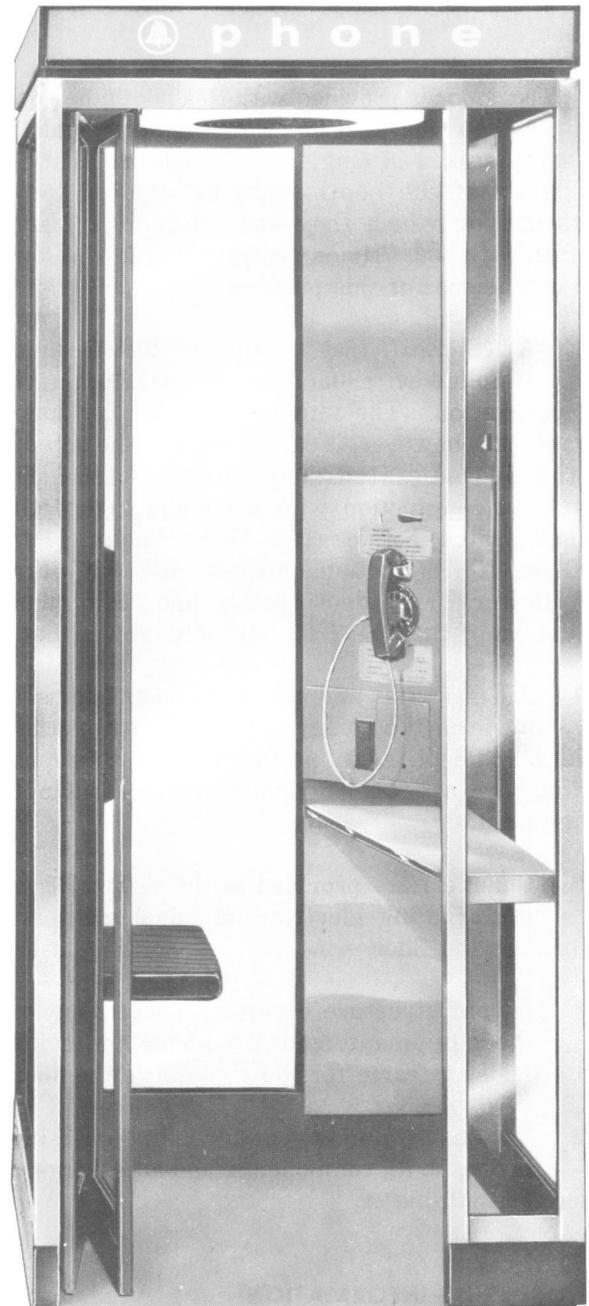

Fig. 1—KS-19442 Deluxe Telephone Booth
1.01 The KS-19442 deluxe glass telephone booth is designed for indoor, sitdown service (Fig. 1). It may be used singly or in various multiple arrangements (side-by-side and/or back-to-back).
2.07 No floor is provided with this booth; however, a KS-19442, List 90 floor (Fig. 1) is available and can be used in single or multiple installations. The walls of the booth must be secured to the surface upon which they are placed if a List 90 floor is not used. Holes are provided in the lower wall extrusions for this purpose.